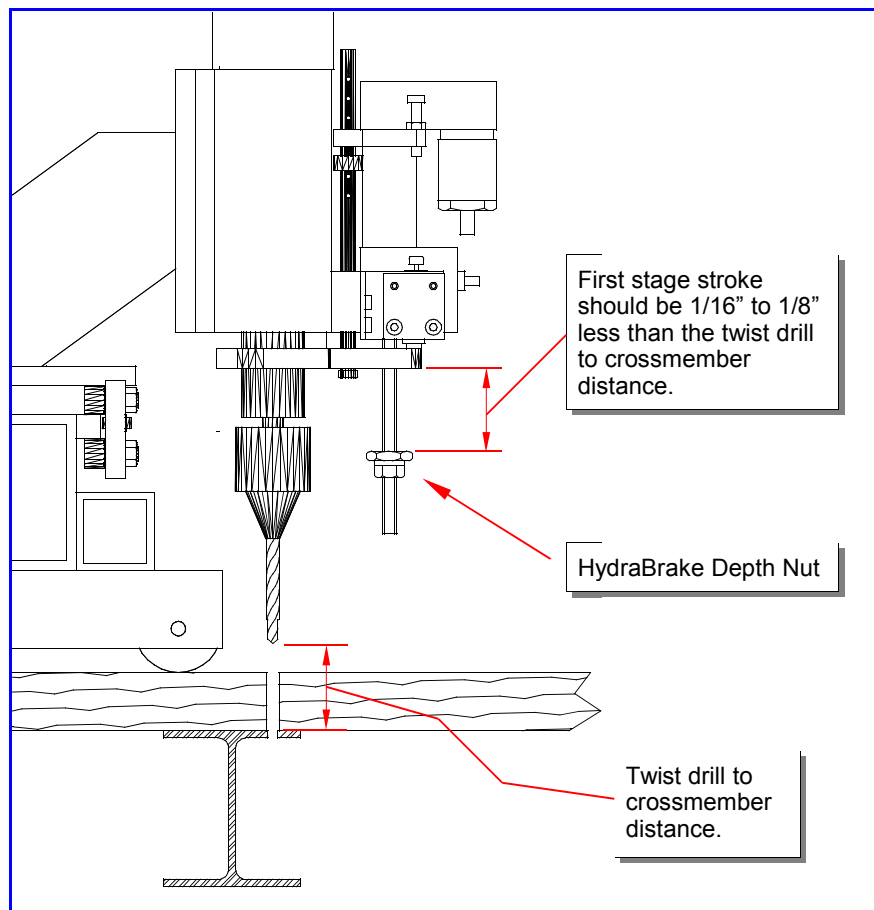

Figure 9-1
7. Drill Unit adjustments should be made at the first use of The Deck Mate. (See Figures 9-1, 10-1, & 11-1.)